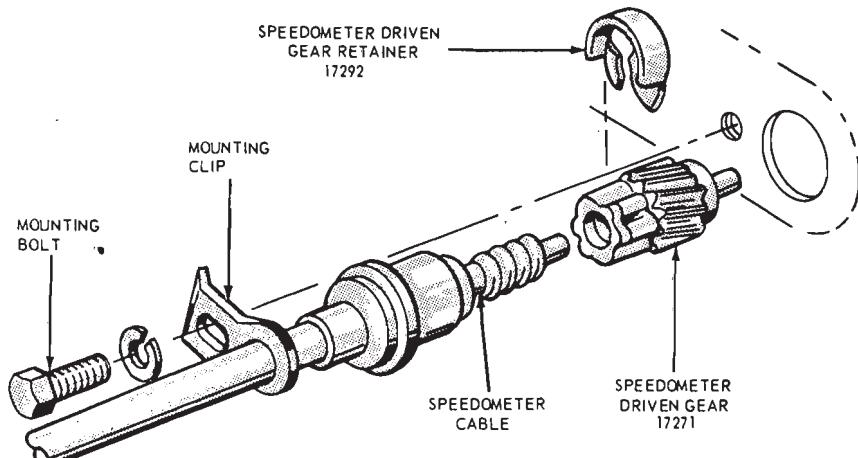

FIG. 6—Speedometer Driven Gear Retainer and Mounting at Transmission
4. Remove the shaft and driven gear from the transmission (Fig. 6). Remove the driven gear retainer, and remove the driven gear and shaft from the cable.